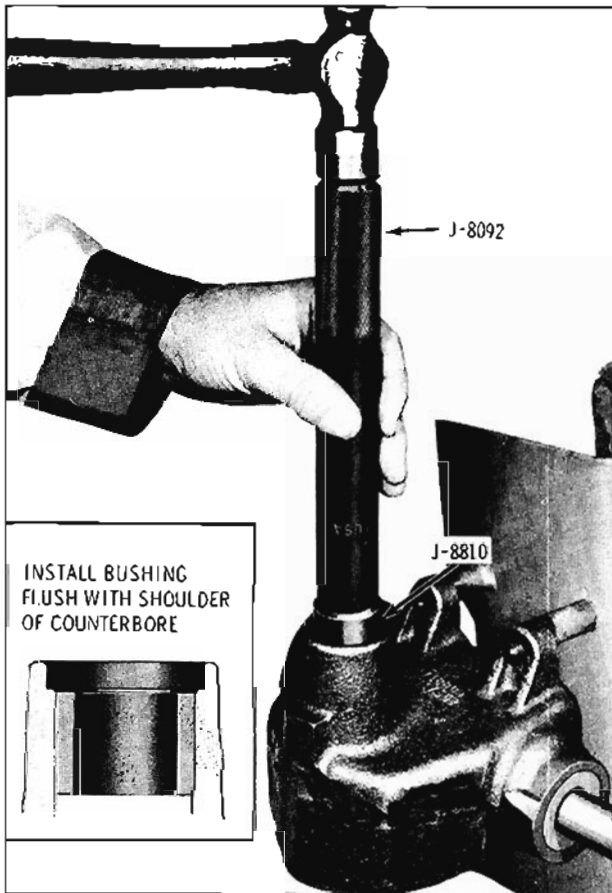

Fig. 8-15 Installing Pitman Shaft Bearing
1. If pitman shaft bushing was removed, place a new bushing over end of Tool J-8810, then drive bushing into housing as shown in Fig. 8-15.